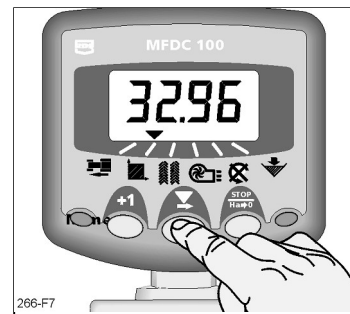

Fig. 7: Total area display
1. Press the button to select the program (fig. 7).